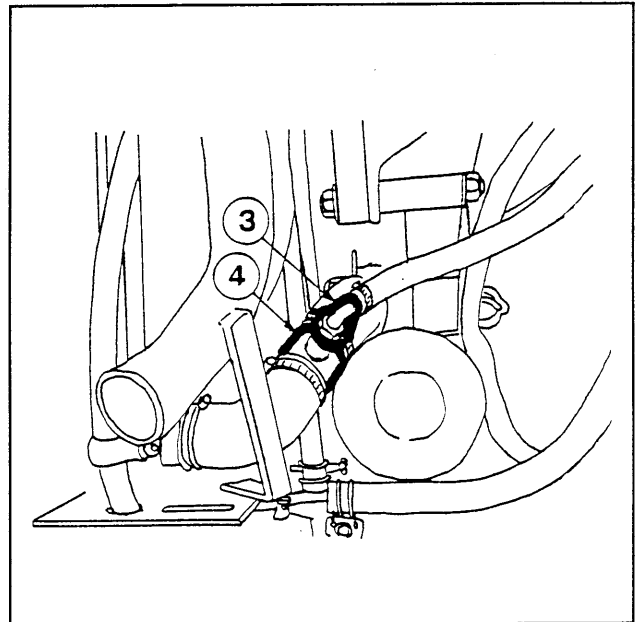

Figure 2
5. Locate the lower radiator hose on the left side of the engine, near the water pump. Cut the hose where shown. Screw the 3/8"NPT-3/8"barb 90 degree fitting (3) into the splicer (4). **REMEMBER** to use a water sealant material around the threads of the fitting. Connect each end of the splicer to one end of the hose using the HS-20 hose clamps provided. (see Figure 2)